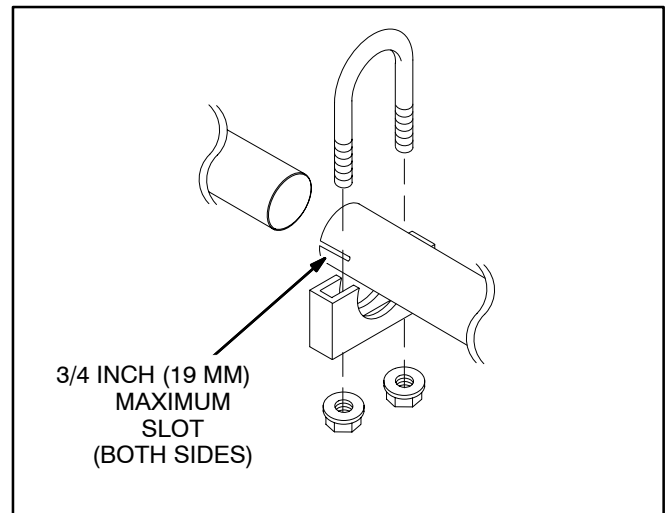

FIGURE 7. EXHAUST TAILPIPE CONNECTIONS
4. Use U-bolt muffler clamps to connect sections of tailpipe. It is recommended that the overlapping pipe be slotted as shown in Figure 7.